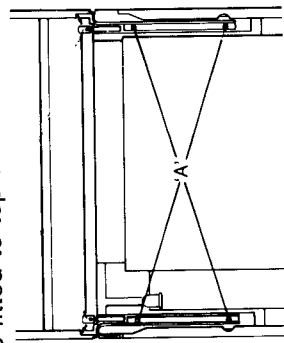

Fig. 8
2. Support splashback and remove 4 fixing screws 'A' (See Fig. 8)